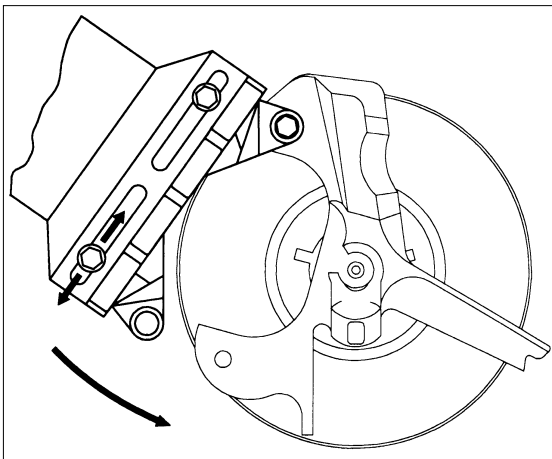

Figure 10
- 8.** Adjust the lathe mounting brackets until the lower lathe mounting bracket aligns with the lower hole in the caliper mounting bracket, Fig. 10.
- 6.** Adjust the lathe mounting brackets, Fig. 10 on the previous page, until the lower lathe mounting bracket aligns with the lower caliper bracket bolt hole.